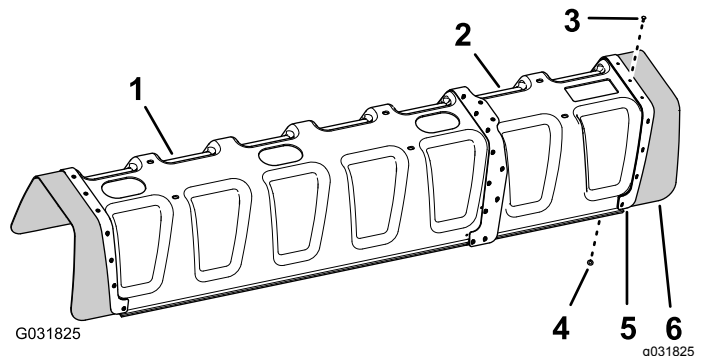

Figure 148
5. Align the holes in the rubber cover and the reinforcement plate (single row) that you removed in step 2 with the holes in the end of the over extension (Figure 148).